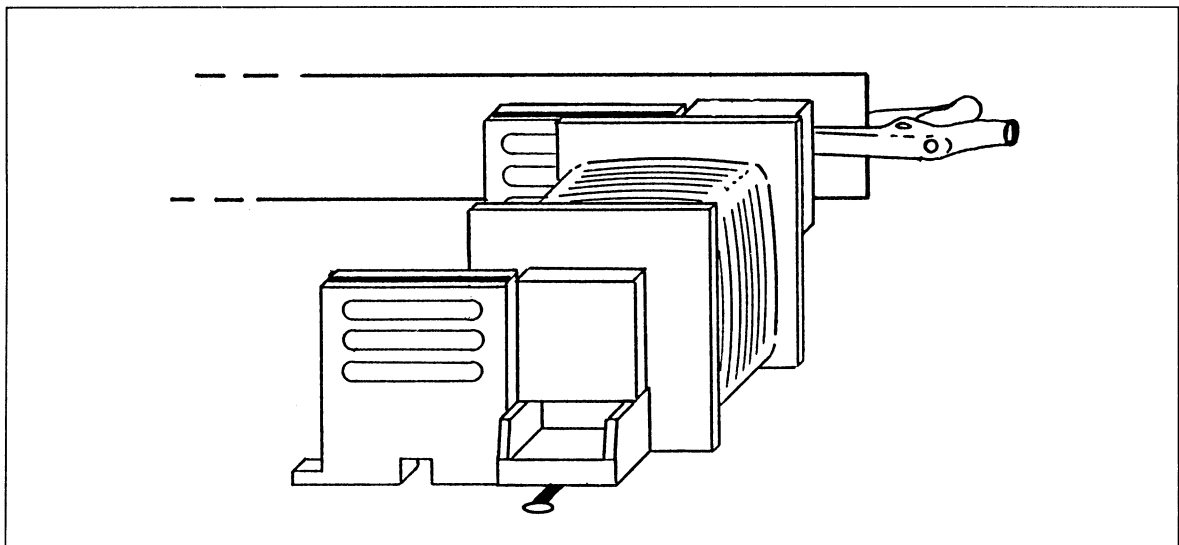

Fig. 2 Attaching a crocodile clip to the end of the leaf spring.
- Attach a crocodile clip to the end of the leaf spring as shown in Fig. 2. What happens now when you close the switch?